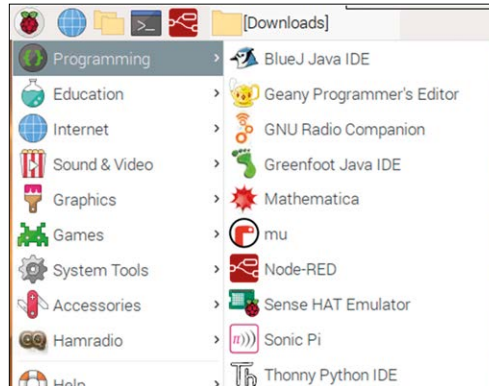

Figure 2.7: Start Thonny on your Raspberry Pi.
- Click menu, followed by **Programming** on your Raspberry Pi Desktop and then click **Thonny Python IDE** (see Figure 2.7). The author had version 3.7.3 of Thonny installed on his Raspberry Pi 4.